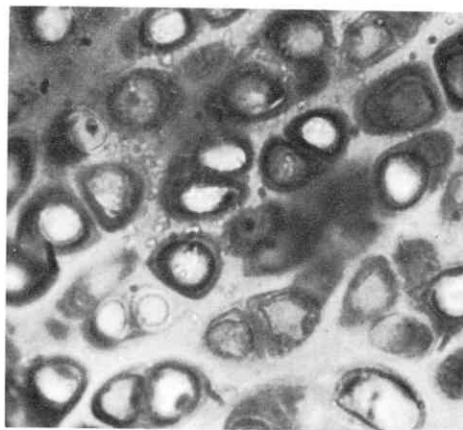

Figure 2. Photomicrograph.
Setting up the Focaslide: The Focaslide consists of a sliding plate (A), fig. 2, with parallel dovetail runners (18) along its sides and a fixed plate (B) with parallel dovetail grooves (19). The Focaslide is supplied with the two parts fitted together.